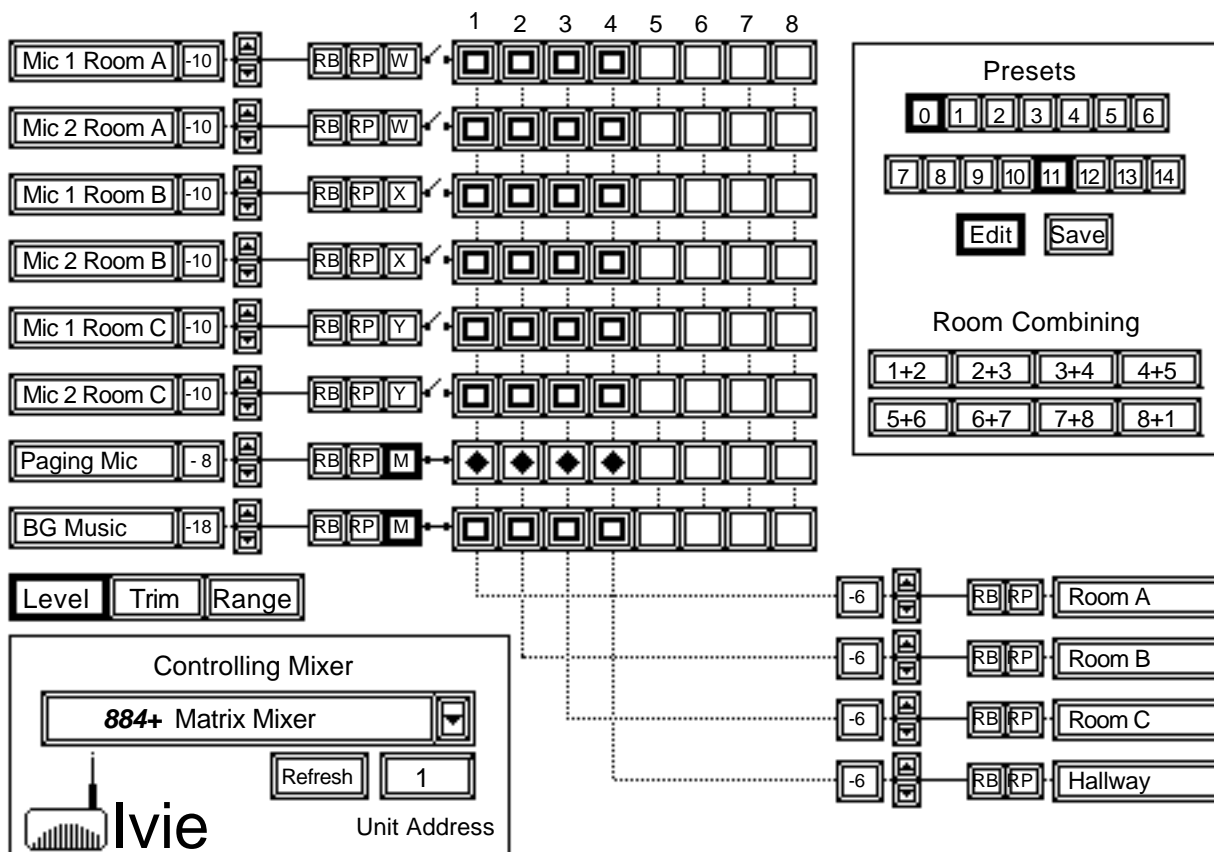

Figure 43
The final preset that would need to be programmed for the three meeting room application is the All Page (Preset 11). The highest numbered preset used in this application is Preset 11 because the All Page has the highest priority of any condition of the sound reinforcement system. The programming of Preset 11 is demonstrated in Figure 43 below:
3. Assign (Definitely On) the front desk Paging Microphone to all zones using the appropriate Mix Bus Assign Buttons (the red diamonds on the Mix Bus Assign Buttons shown in Figure 43 on the preceding page demonstrate that this has been done).
4. Turn off every other input that could possibly feed any zone (the red rectangles on Mix Bus Assign Buttons shown in Figure 43 demonstrate that this has been done).
5. Turn off (disable) the remote controls for all zones (notice the RB buttons for all zone outputs are not longer depressed. Clicking on an RB Button releases it. While the graphic in Figure 43 shows the buttons released, it cannot show that they would be red in color. On the ANSW+ software screen, they *would* be red to indicate they had been changed as part of the preset.
6. Using the up/down level buttons, adjust the page level coming into each zone. (Notice that each zone's output level has been turned up from -10dB to -6dB as Figure 43 on the preceding page shows.) (Again, the changed level would be red in color.)